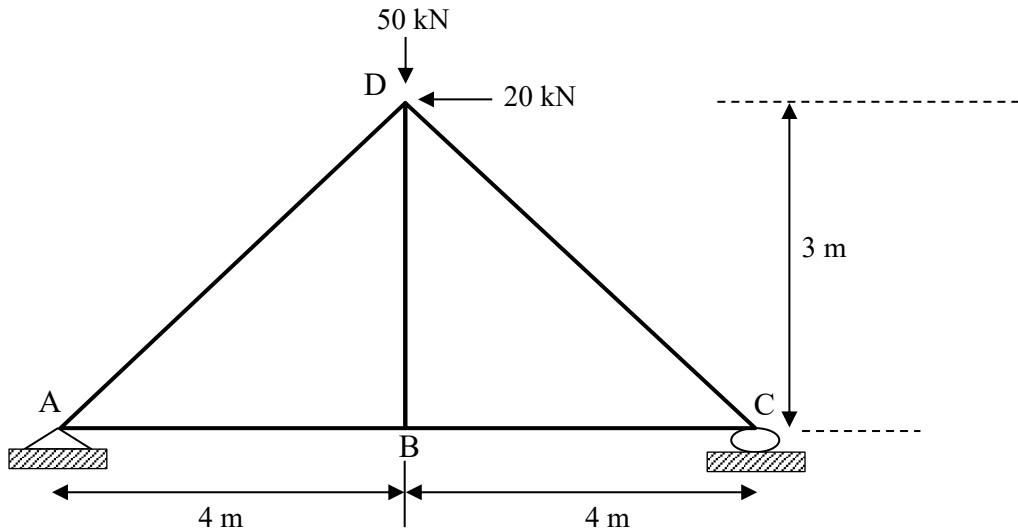

Figure A1(a) / Rajah A1(a)
- CLO2 (a) A statically determinate truss with external horizontal load, 20 kN and vertical external load 50 kN is shown in Figure A1(a). Identify the internal force in each member of the truss by using the Method of Joint.